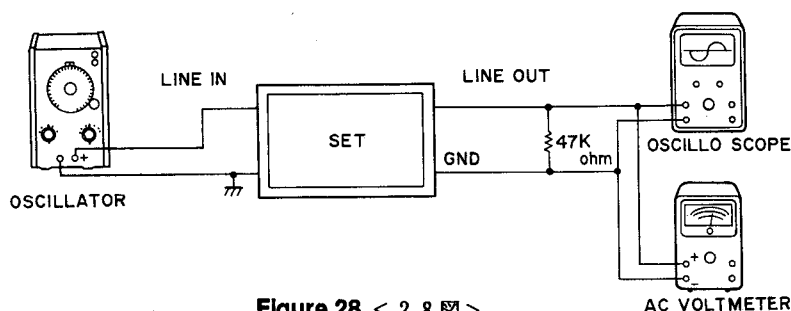

Figure 28 < 28図 >
- (1) Make the connections as shown in Figure 28 and turn the power ON.
- (2) Insert the metal tape (TDK AC-712) into deck B and set to REC PLAY mode. Set the REC LEVEL volume to the maximum.
- (3) Input the signal that has been reduced by 25 dB from the 400 Hz/150 mV ± 2 dB signal (DOLBY LEVEL reference input) to the line input, and set the output value of the line output L (R) to the reference value.
- (4) Adjust VR5071 (VR5072) so that the output value of the line output L (R) becomes equal to the reference value when the signal that has been reduced by 25 dB from the 12.5 kHz/150mV ± 2 dB signal is input to the line input.
- (5) Insert the CrO₂ tape (TDK AC-512) as in (2), and set to REC PLAY mode. Input the signal that has been reduced by 25 dB from the 400 Hz/150 mV ± 2 dB signal (DOLBY LEVEL reference input), and set the output value of the line output L (R) to the reference value as in (3) and (4). Adjust VR5073 (VR5074) so that the output level when the 12.5 kHz/-25 dB signal is input becomes equal to the reference value.
- (6) Insert the normal tape (TDK AC-223) as in (2), and set to REC PLAY mode. Input the signal that has been reduced by 25 dB from the 400 Hz/150 mV ± 2 dB signal (DOLBY LEVEL reference input), and set the output value of the line output L (R) to the reference value as in (3) and (4). Adjust VR5075 (VR5076) so that the output level when the 12.5 kHz/-25 dB signal is input becomes equal to the reference value.